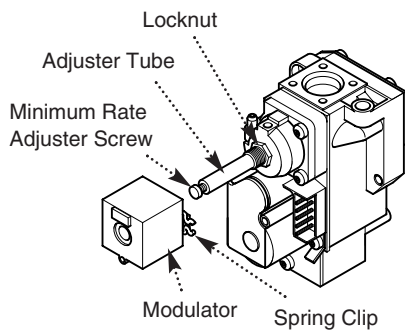

Fig. 34
- Adjusting the Pressure** (Fig. 34)